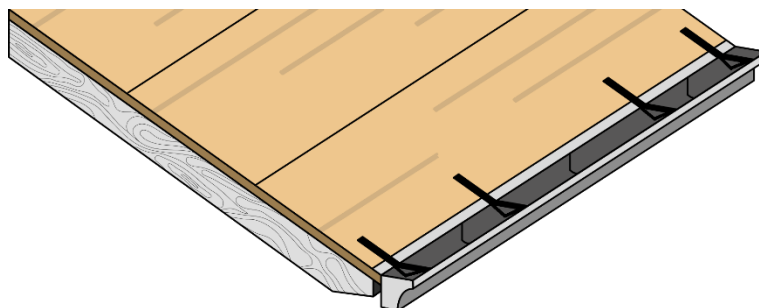

Fig. 2 - Gutter installation
- Before installing the bituminous shingles, install the gutters or the drips and fix them properly to the substrate through tie-rods – Fig. 2.